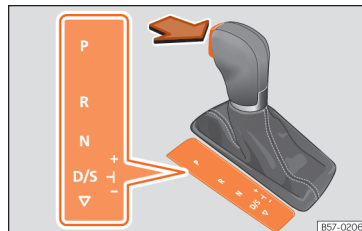

Fig. 244 Selector lever lock.
- Press the brake pedal *and*, at the same time, hold the lock button in the direction of the arrow »» **Fig. 244.**